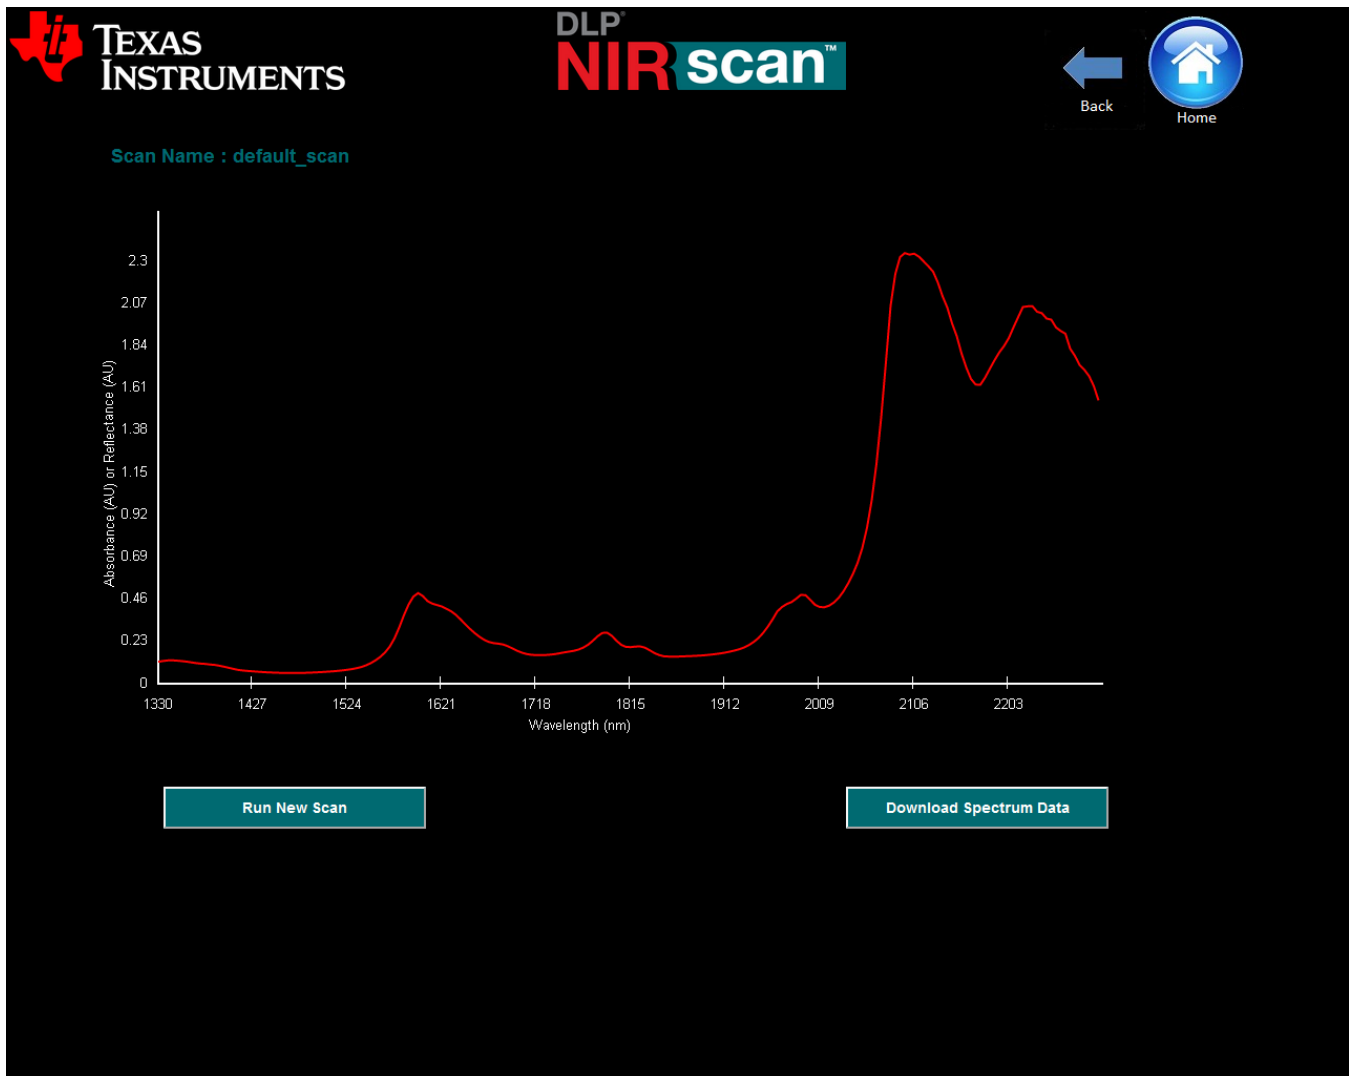

Figure 3-2. Example Quick Scan
4. Select the **Perform Scan** button. The DLP NIRscan will then scan the sample, calculate the sample material absorbance, and display the absorbance in graphical format on the next screen. Figure 3-2 shows an example of this screen.